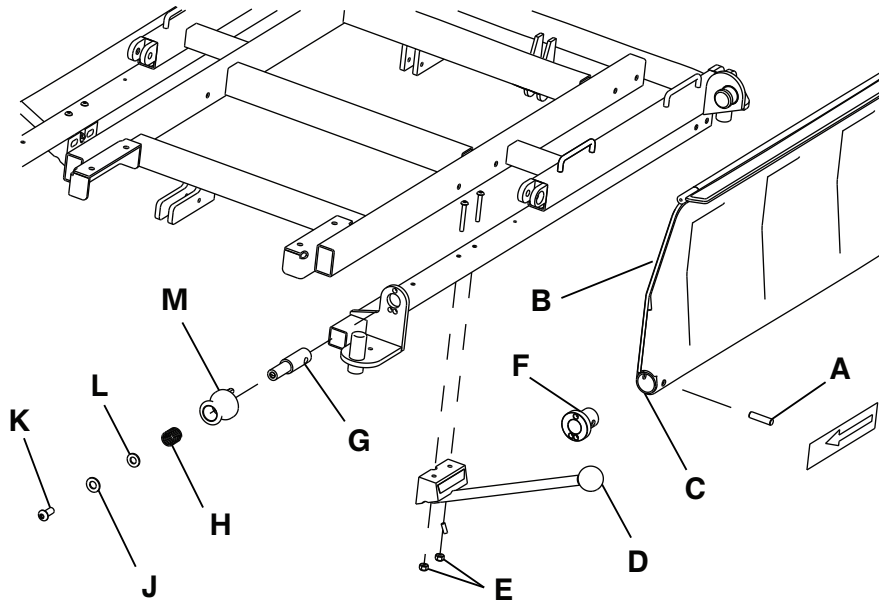

Figure 9 – Siderail replacement
5. Using a 1/4" punch and a hammer, drive out the pin (A) that secures the siderail (B) to the latch pivot shaft (G) (Figure 9).
6. Pull back on the red release knob (M) and remove the knob assembly with the latch pivot shaft (G) (Figure 9).
10. Using a 3/16" hex wrench, remove the button head cap screw (K) from the end of the red release knob (M). Disassemble the washers (J and L), spring (H), and the latch pivot shaft (G) (Figure 9).
15. With the siderail in the highest position, replace the red release knob (M) over the shaft and into the locking holes.
**Note** - If the siderail will not lock in the low position, rotate the red release knob (M) 180 degrees. Repeat step 16.
17. Replace the spring (H) and the washers (J and L) and the latch pivot shaft (G) inside the end of the red release knob (M).
18. Apply **Loctite 242** to the button head cap screw (K). Install the screw into the end of the red release knob (M) and tighten the screw (Figure 9).
1. Make sure that the red knob (M) is seated fully when released when the siderail is in both the high and low positions (Figure 9).
2. If the red knob is not fully seated, use a 3/16" hex wrench to remove the button head cap screw (K) in the end of the red knob.
4. Replace the button head cap screw (K) in the end of the knob. Using a 3/16" hex wrench, tighten the button head cap screw.